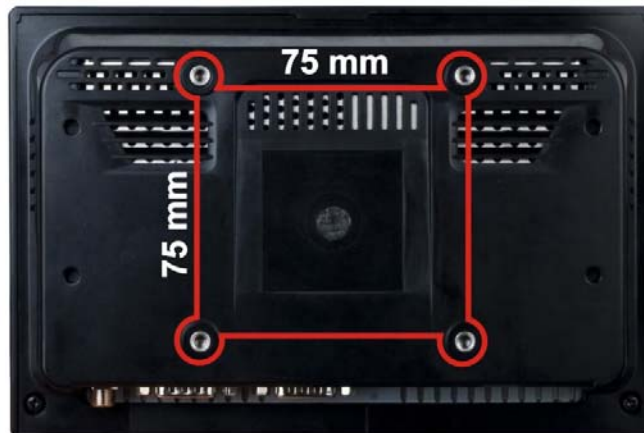

Figure 3-17: Arm Mounting Retention Screw Holes
Step 3: Align the retention screw holes on the mounting arm interface with those in the flat bezel panel PC (**Figure 3-17**).